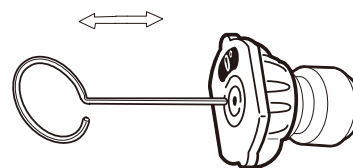

Fig. 4
- If the nozzle becomes clogged, use the supplied nozzle cleaning pin or a straightened paper clip to remove dirt or debris. (See Fig. 4.)